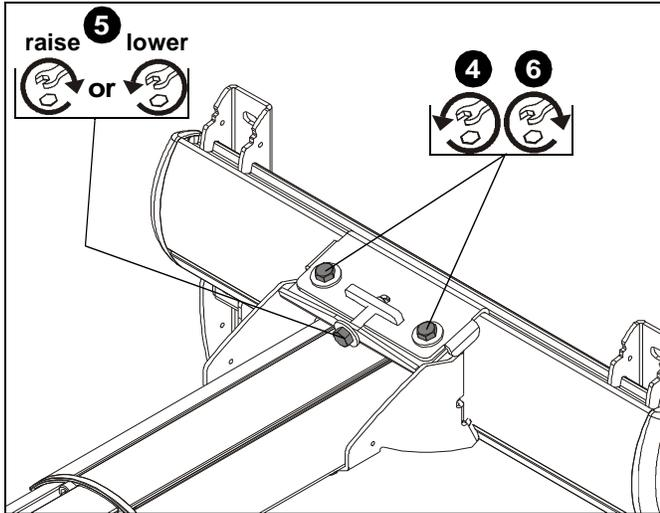

Figure 13
4. Loosen two bolts on either side of pitch adjustment screw. (See Figure 13)
5. Adjust pitch adjustment screw until mount is at desired pitch level. Turn clockwise to raise mounting level or turn counterclockwise to lower mounting level. (See Figure 13)
6. Tighten two bolts on either side of pitch adjustment screw. (See Figure 13)